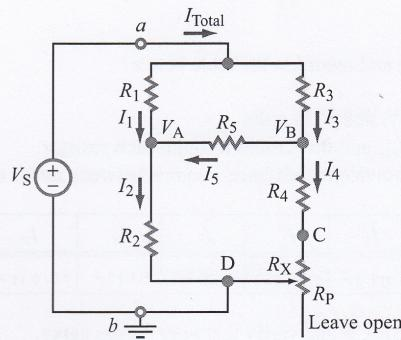

Figure 19: Resistor circuit including a variable resistor.
5. The circuit shown in Figure 19 is built with the same resistors as the circuit shown in Figure 18, except for the addition of the variable resistor  $R_X$ . Determine the value of  $R_X$  such that the current  $I_5$  vanishes.